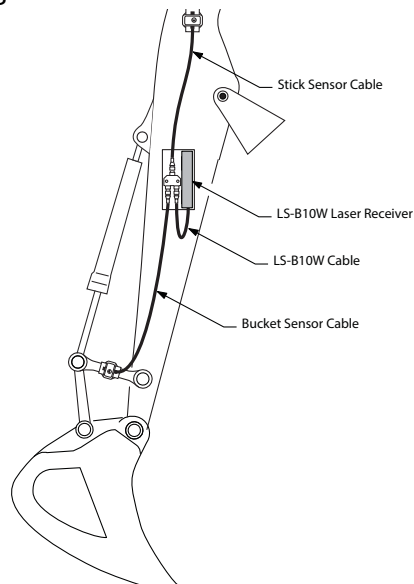

Figure 57: LS-B10W Cable Routing
4. Route the cables as shown in Figure 57.